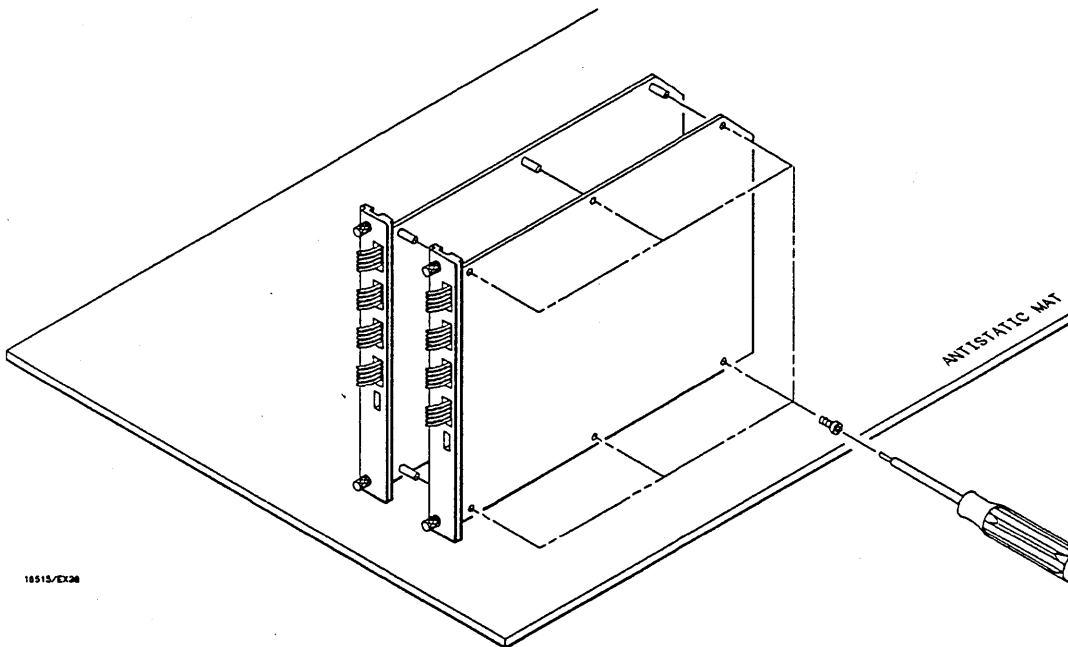

Figure 6-14. Screw Removal
5. If this is a two card module, lay cards on antistatic mat, disconnect intercard cable and using a No. 10 torx ®, remove screws. See figure 6-14.